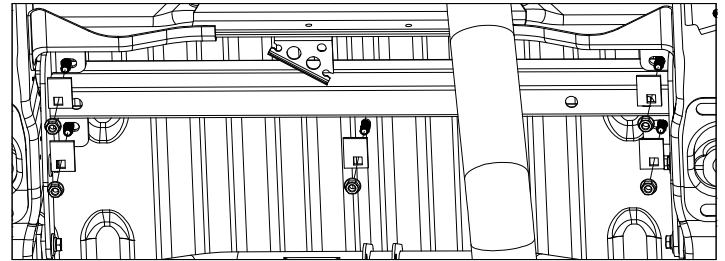

FIGURE B5: View looking up at bed.
- 4. Fasten the forward mounting rail.** Install an offset square hole washer and 1/2" flange nut on each of the carriage bolts passing down through the bed as shown in figure B5. Do not fully tighten at this time.